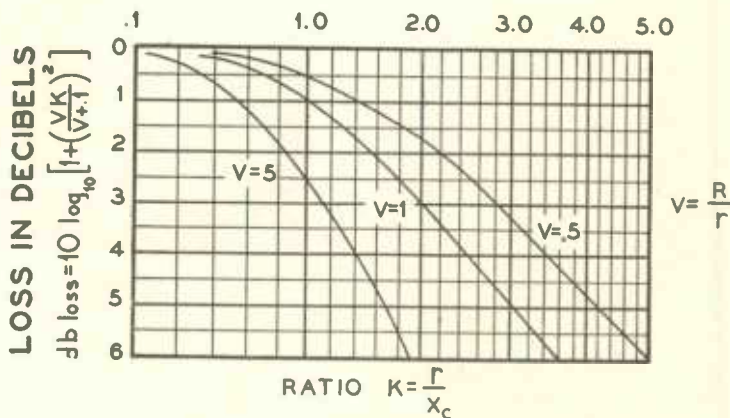

FIG. 5
(D) In attempting to obtain a number of impedance combinations from one transformer, so that flexibility in service is assured, variation in frequency range will be obtained unless accurate precautions are taken. It is essential that for all impedances available, almost complete coupling of the windings be maintained. This can be done. The transformer whose frequency characteristic is shown in Fig. 5 has six primary impedances and six secondary impedances, the impedance range in both cases being 10 to 1, yet to 25,000 cycles not .5 DB change in loss is obtained for any impedance combination.
The distributed capacity C is again effective only at the higher frequencies. Similar to the primary, it is purely a shunting effect varying with frequency. Fig. 5 illustrates the loss due to distributed capacity in an audio circuit. If source and load impedances were 100,000 ohms each, it would require only 300 ufd to cause a loss of 2 DB at 10,000 cycles.